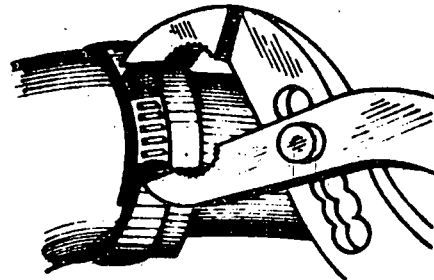

Fig. 5
- a) Place the pliers so that the points hold both ends of the clamp (Fig. 5).